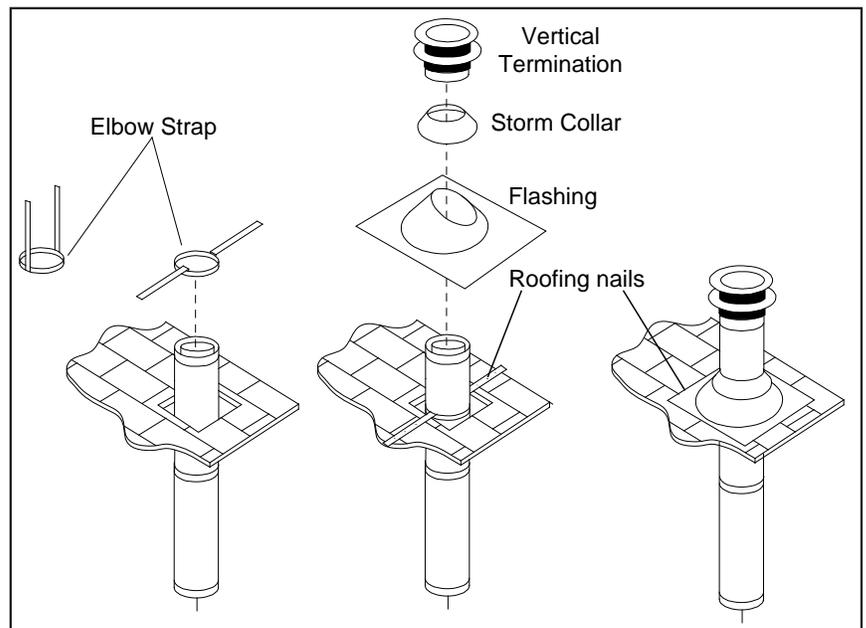

Figure 54: Vertical Vent Termination
- Step 3.** To install the Round Support Box/Wall Thimble in a flat ceiling, cut a 10 inch (25.4 cm) square hole in the ceiling, centered in the hole drilled in Step 2. Frame the hole as shown in Figure 54.
- STEP 6.** Once the pipe sections have been joined, and run up through the hole in the roof, slip an elbow strap over the exposed sections, bend the support straps outwards, and push the elbow strap down to the roof level, as shown in Figure 54. Tighten the clamp around the pipe section. Use a level to make sure the pipe is truly vertical. With roofing nails, secure the support straps to the roof. Seal the nails holes heads with non-hardening mastic. Trim the excess length of the support straps that extend out beyond the edge of the flashing.
- STEP 9.** Slip the storm collar over the pipe, and push it down to the top of the roof flashing as shown in Figure 54. Use the non-hardening sealant around the joint between the pipe and the storm collar.